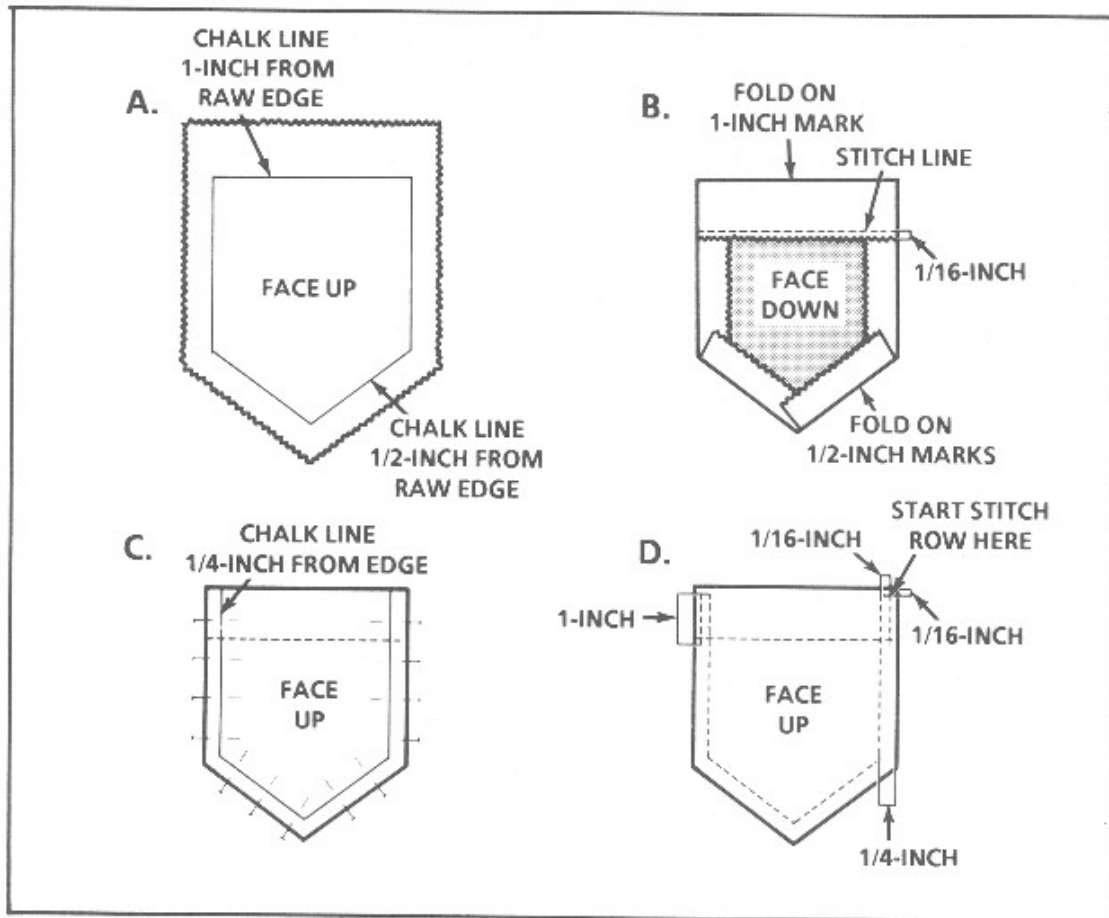

Figure 3-66
- i. Make a tack by stitching 1-inch down and back up to the starting point. (See Figure 3-66)